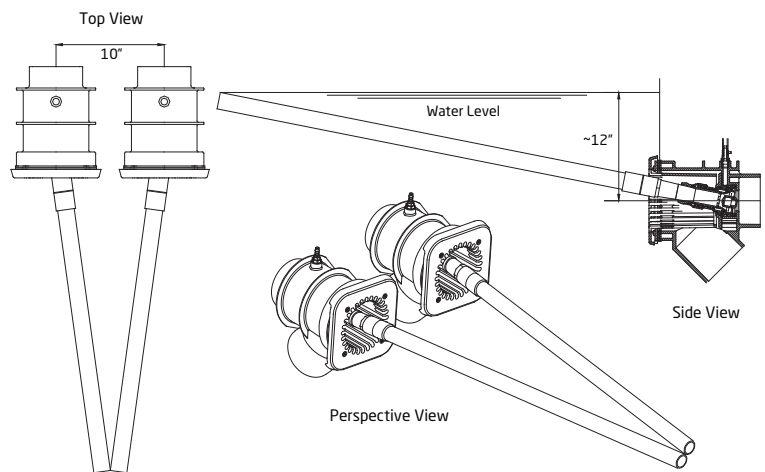

Figure 16
2. Place one nozzle adjustment tool into the center jet nozzle, bring the blue nozzle tool so it is straight out and tilted up, so the end of the tool breaks the surface of the water and leave tool in the jet. (See Figure 16)